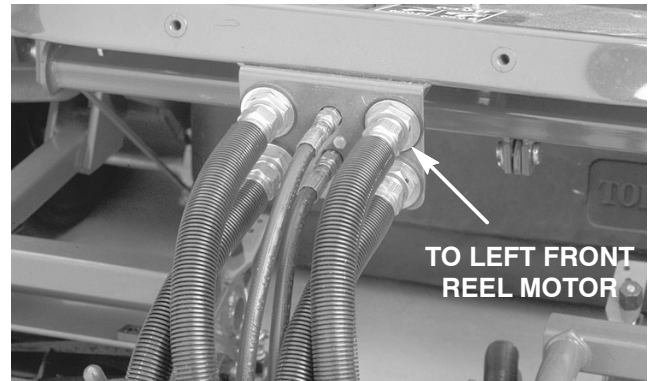

Figure 25
1. Make sure hydraulic oil is at normal operating temperature by operating the machine for approximately ten (10) minutes.
3. Disconnect hose connection on the bulkhead that leads to the front port of the left front reel motor (Fig. 25).